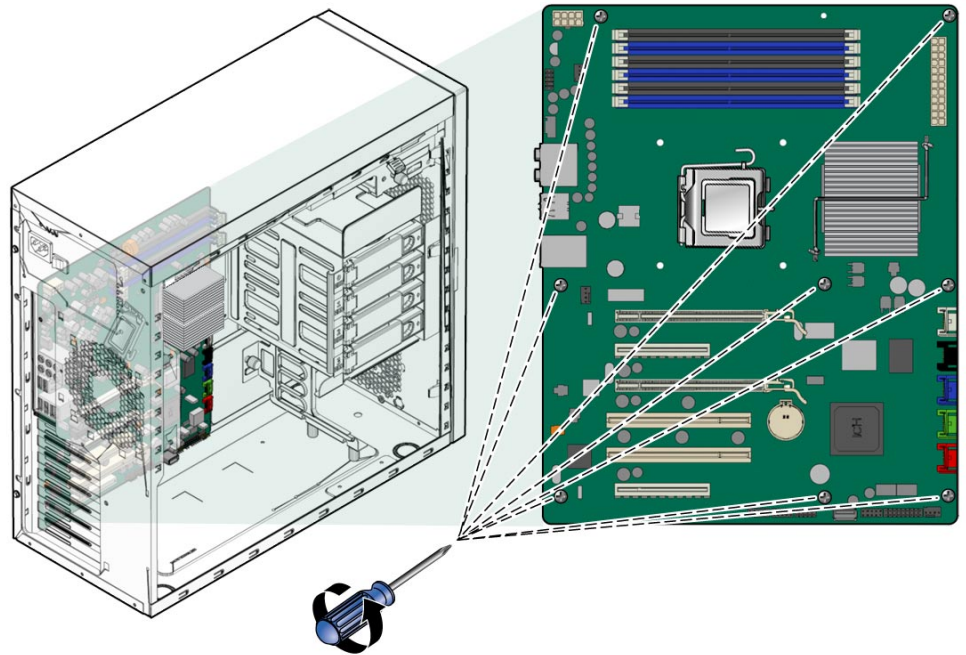

FIGURE 3–35 Removing the Eight Motherboard Screws
- 9 Remove the eight Phillips screws that fasten the motherboard to the chassis (see Figure 3–35).